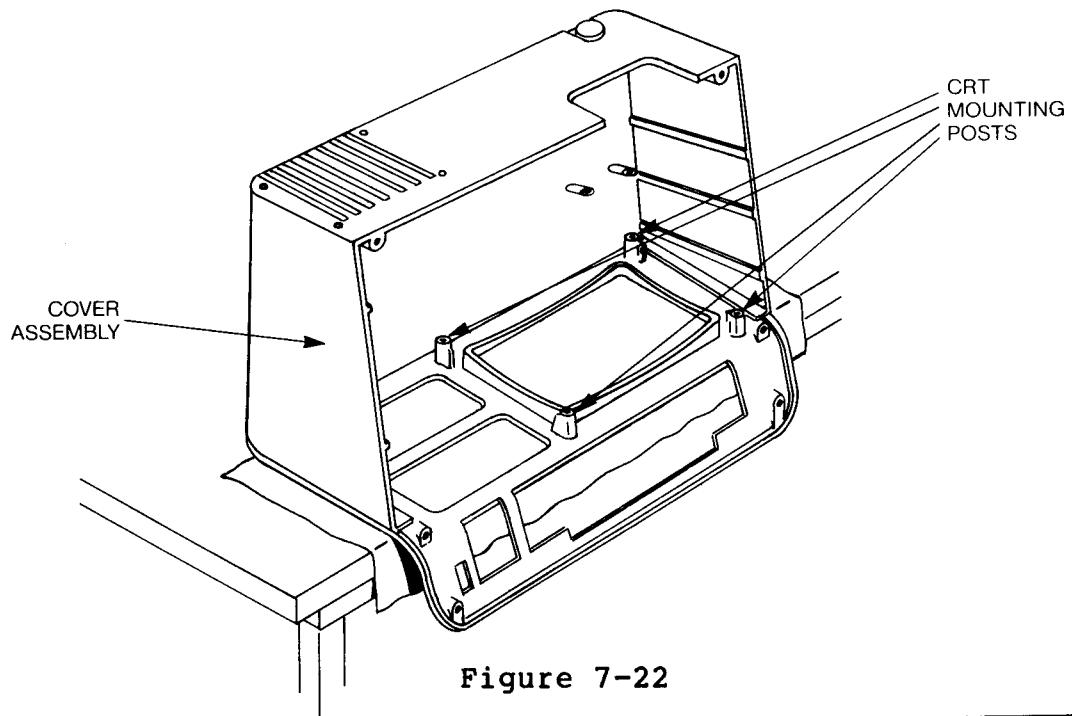

Figure 7-22
- 1) Place the Cover Assembly on the edge of a work bench as shown in Figure 7-22. Use padding on the work bench to avoid scratching the cabinet.
- 2) Find four 1/4 inch standoffs in the CRT mounting hardware. Place these standoffs on the four CRT mounting posts (see Figure 7-22).